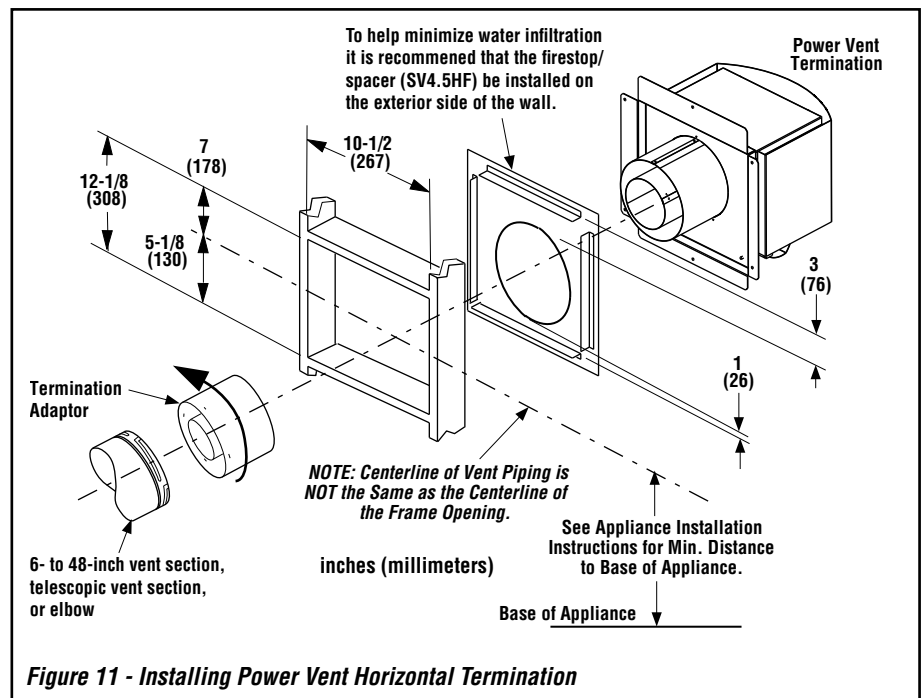

Figure 11 - Installing Power Vent Horizontal Termination
7.2. See **Figure 11**. Attach the **termination adaptor** [#5] to the last vent section and secure with sheet metal screws. Attach the **termination adaptor** in the manner shown in **Figure 4**, “**Connecting Adaptor, Probe, and Vent Components**” (**Page 4**).
7.3. See **Figure 11**. Install the **firestop assembly** [#9]: